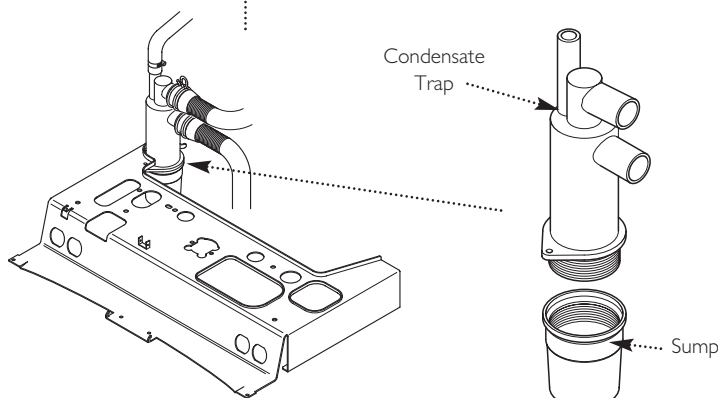

Fig. 62
7. Unscrew the sump from the bottom of the condensate trap assembly (Fig. 62).